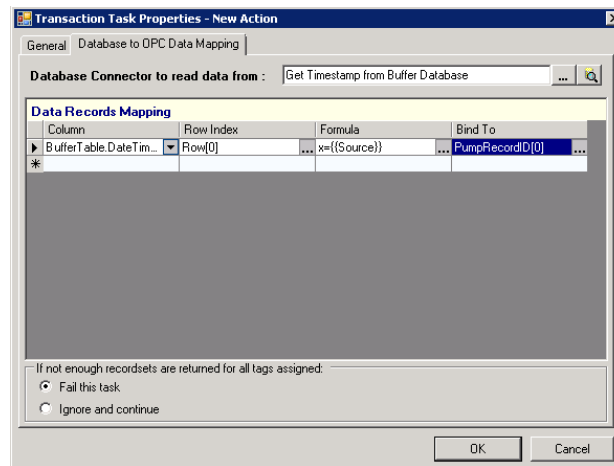

Figure L5.3 - Data Mapping of the Get TimeStamp from Buffered Database
- Click on the ellipsis button  under the **Bind To** column to open the Data Destination Browser. Click on the **Global Variables** tab and expand the WaterOne folder. Double-click on **PumpRecordID** and click on the **Bind Current Selection** button. The data mapping should be the same as in Figure L5.3.